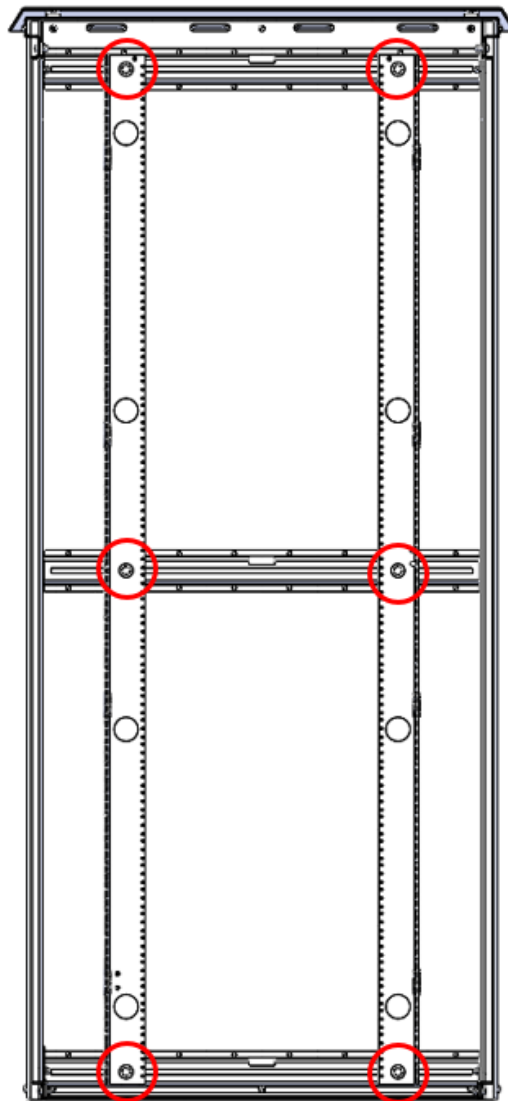
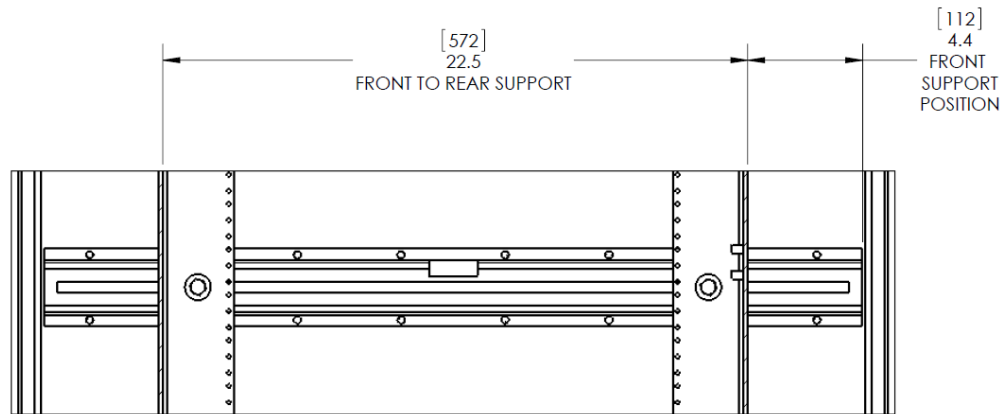

FIGURE 8: ENCLOSURE RACK SUPPORT MOUNTING BOLTS
FIGURE 9: 19 INCH RACK POSITIONS INSIDE SPOT/BOSS-BOX ENCLOSURE
- Use a 9/16" socket to loosen enclosure rack supports (Figure 8) and position as shown in Figure 9.